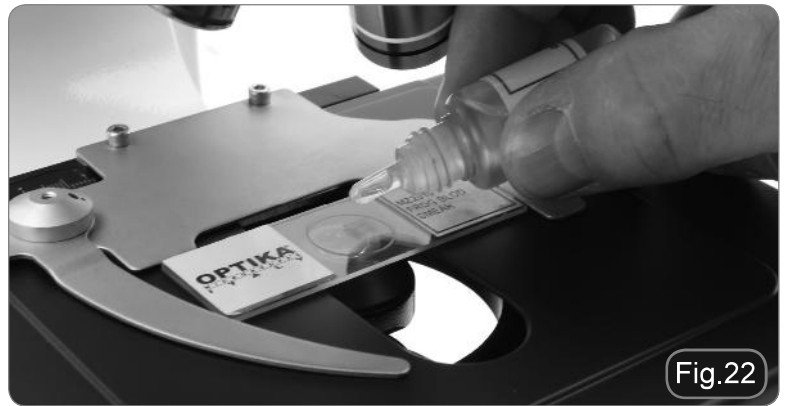

Fig.22
7. Insert in the light path 100X oil/Iris objective. This pre-positions all system components in preparation for adding oil. Move the immersion objective to an adjacent position of the nosepiece and apply the oil to the sample.. (Fig. 22)